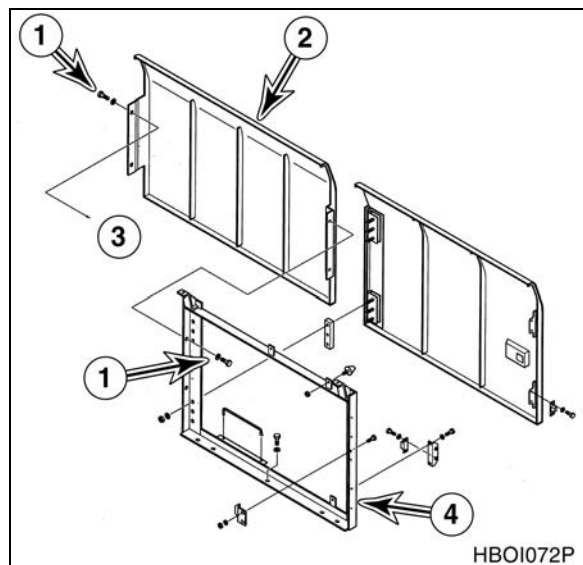

Figure 13
5. Install cover (2, Figure 13) on fuel tank (3) and support (4) with four bolts and washers (1)